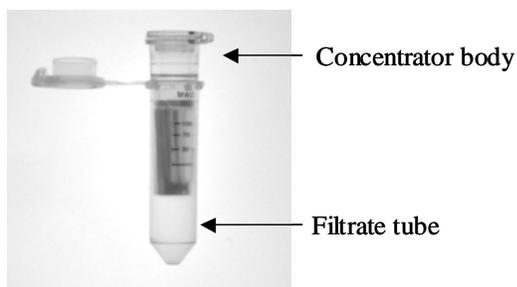

Figure 12. Diafiltration spin filter used for concentrating dilute antibody samples prior to the start of All-in-One conjugation protocol.
instances, IgG samples will need to be concentrated to 4-5 mg/ml and 25 μ l before proceeding. The All-in-One kit provides two (2) diafiltration filters (M.W.C.O. 30 kD) for this purpose (**Figure 12**). Carefully follow these instructions to avoid antibody loss or aggregation on the filter's surface.